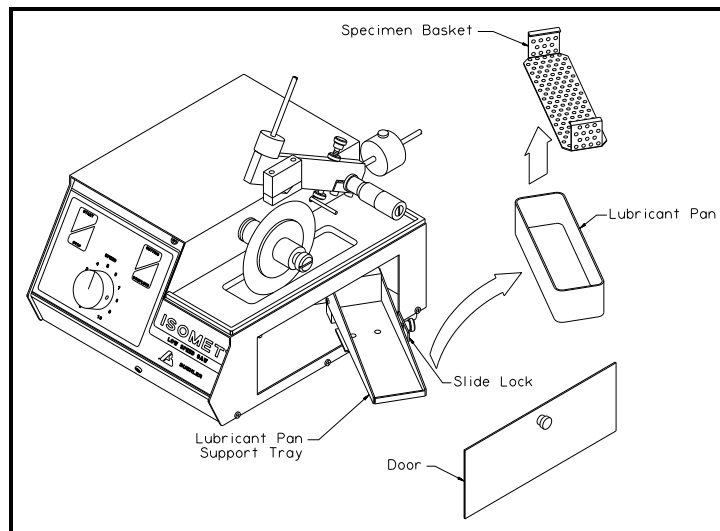

Figure 2: Lubrication Pan Diagram
2. Remove the lubricant pan by lifting off the door on the right side of the saw (see Figure 2).